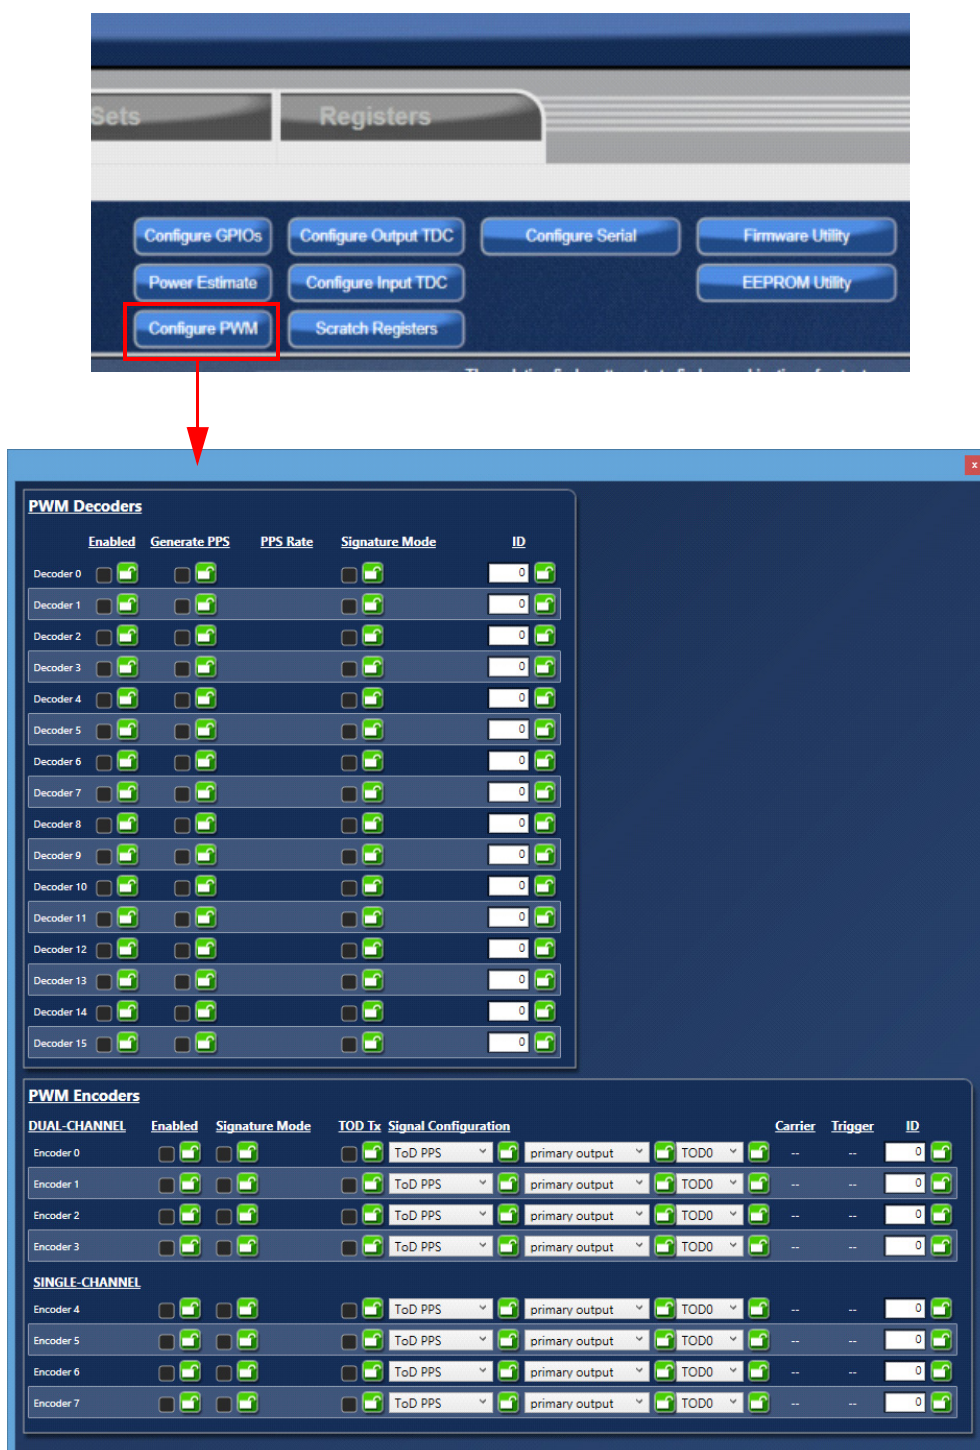

Figure 21. Pulse Width Modulation Configuration Window
- It enables a clock signal to be pulse width modulated and also demodulated, so there are encoders and decoders (see Figure 21)